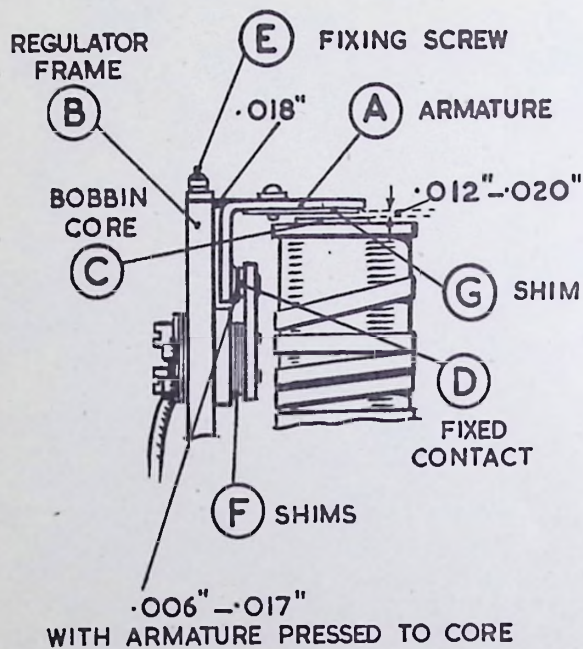

Fig. 5. Mechanical Adjustment of Regulator.
- (2) **Mechanical Setting.** The mechanical setting of the regulator is accurately adjusted before leaving the works and provided that the armature carrying the moving contact is not removed, the regulator will not require mechanical adjustment. If, however, the armature has been removed from the regulator for any reason, the contacts will have to be reset. To do this proceed as follows:—Slacken the two armature fixing screws (see Fig. 5, Page JX4). Insert a .018" (.457 mm.) feeler gauge between the back of the armature and the regulator frame.